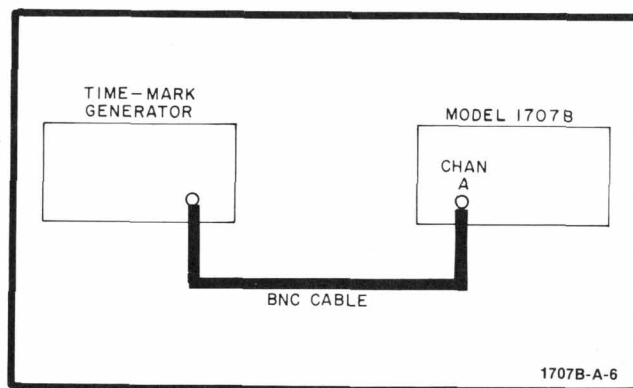

Figure 5-9. Delay Time Accuracy Test Setup
- a. Connect instruments as shown in figure 5-9.